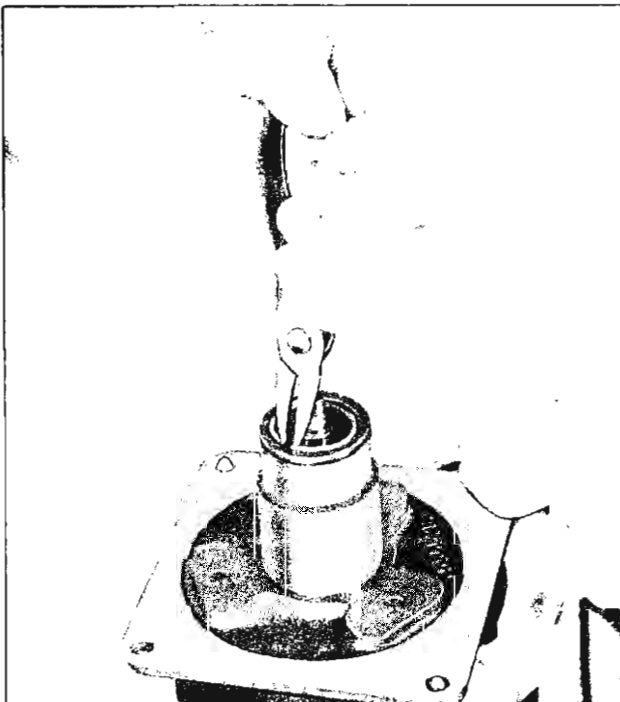

Fig. 24—Removing Seal Seat Retaining Snap Ring
2. Remove the seal seat retaining ring using snap ring pliers J-5403 (fig. 24).